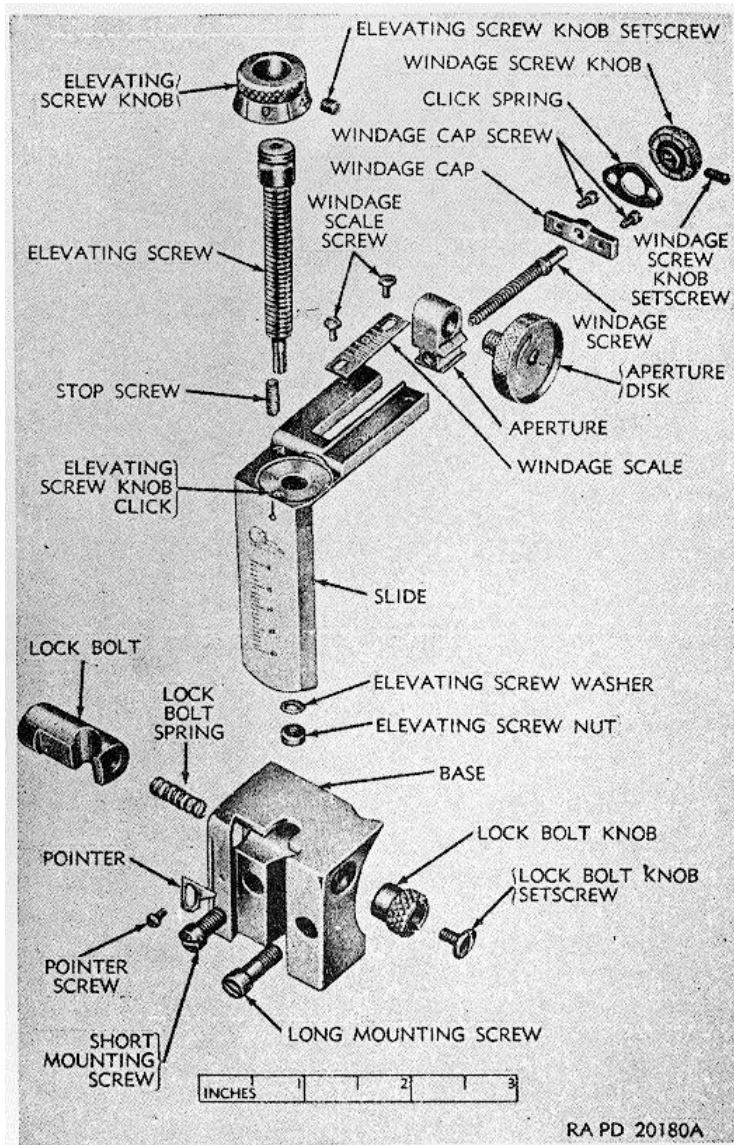

Figure 67. Receiver extension rear sight assembly-exploded view (Lyman rear sight No. 525)
- (1) Remove the two receiver base mounting screws and remove receiver extension rear sight.
- (2) Remove rear sight-base binding screw and filler screw (fig. 67) and separate rear sight base from rear sight receiver base.
- (3) Remove two windage cap screws (fig. 67) and withdraw windage cap, rear sight aperture, and attached parts from rear slide.
- (a) Remove rear sight disk from aperture (fig. 67).
- (b) Remove rear sight windage screw (fig. 67) from aperture and windage cap.
- (c) Remove windage knob setscrew (fig. 67) and separate knob and click windage spring from rear sight windage screw.
- (d) Remove windage scale screw and remove graduated windage scale (fig.67).
- (4) Remove elevation plate screw (fig. 67) and remove graduated elevation plate.
- (5) Remove rear sight elevation screw (fig. 67) from rear sight slide and base and separate slide from base.
- (a) Remove elevation knob adjusting screw (fig. 67) from end of elevation screw.
- (1) Check slide for freedom of movement in base.
- (2) Check click springs for proper functioning and tension.
- (3) Check aperture disk for looseness or burrs.
- (4) Check graduated plates, scales, and knobs for clearness of graduations.
- (5) Examine threads of elevation screw and windage screw for crossing, deformation, and burrs.
- (1) Install the rear right slide (fig. 67) in the rear sight base (fig. 67) and install rear sight elevation screw through slide and base.
- (2) Install click elevation spring in recess on top of rear sight elevation screw and position in place.
- (3) Install elevation knob on end of rear sight elevation screw (fig. 67) align 0 graduation marks on knob and slide. Install two set screws in knob. Install elevation knob adjusting screw (fig. 67) in top of knob.
- (4) Install rear sight aperture in groove of rear right slide.
- (5) Install rear sight disk in rear sight aperture.
- (6) Position windage cap (fig. 67) on end of groove in rear sight slide and secure with two windage cap screws.
- (7) Install rear sight windage screw (fig. 67) through holes in windage cap and rear
- (8) Install click windage spring and windage knob (fig. 67) over end of rear sight windage screw and secure with windage knob set screw.
- (9) Install graduated windage scale (fig. 67) and secure with windage scale screw. Align reference marks on rear sight aperture and windage scale.
- (10) Install graduated elevation plate (fig. 67) on rear sight slide and secure with elevation plate screw.
- (11) Secure rear sight receiver base to receiver with concave surface in contact with receiver and secure with two receiver base mounting screws.
- (12) Install elevation take-up plug.
- (13) Secure rear sight base to rear sight receiver base and secure with rear sight base binding screw and fill screw.